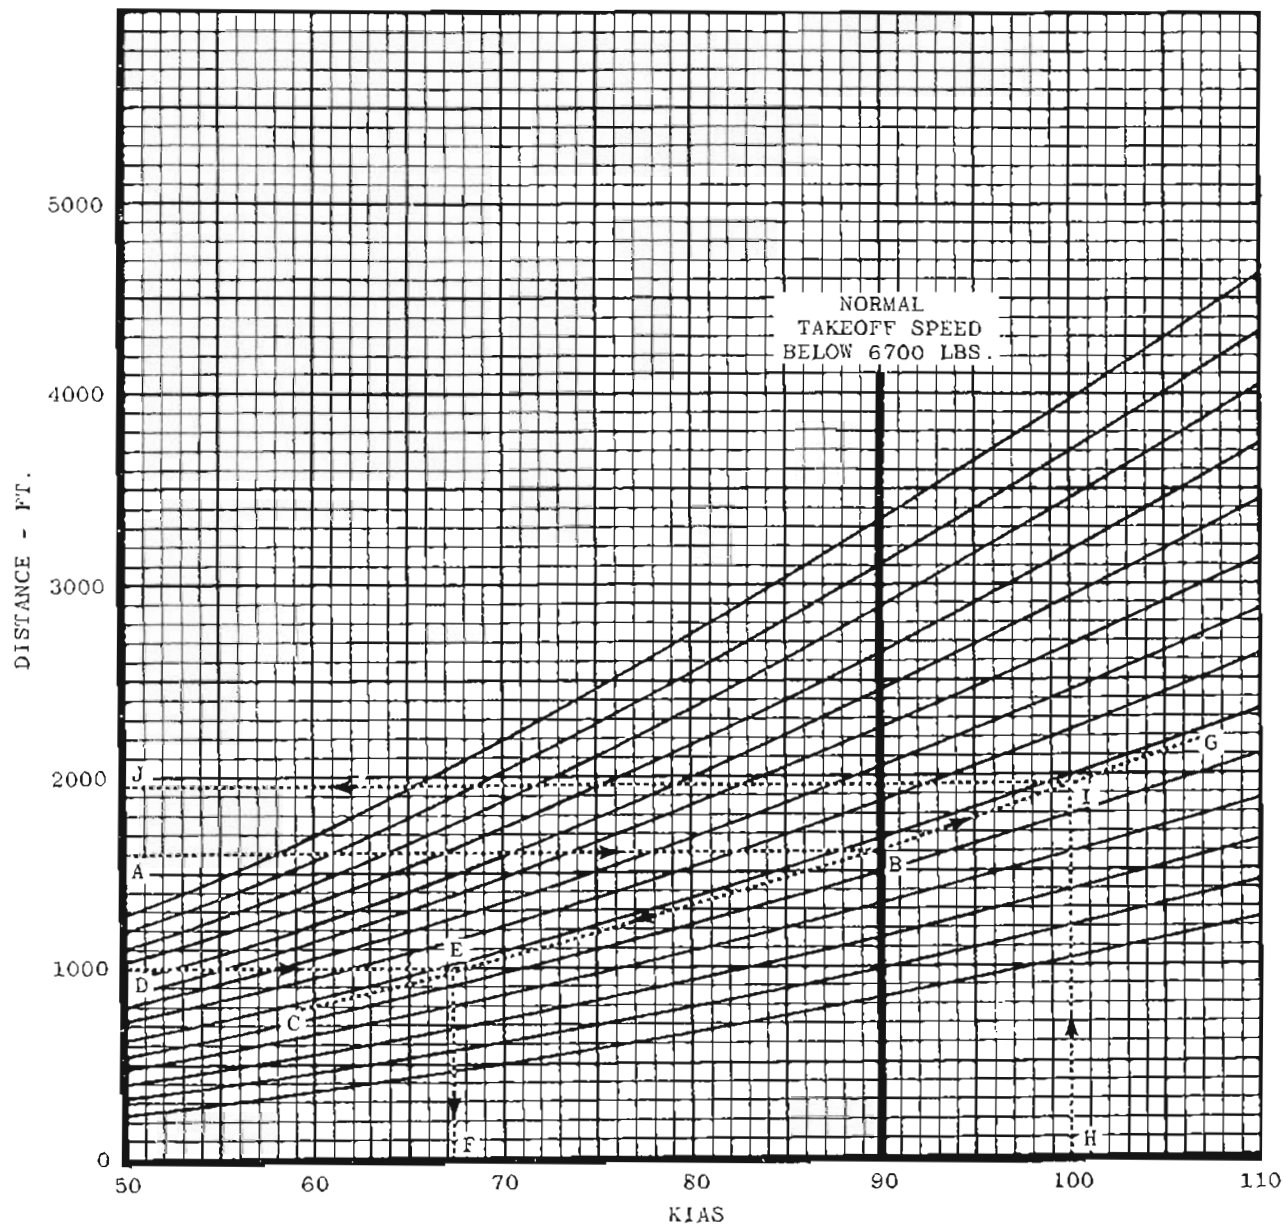

Figure A2-7
If crosswind conditions require an increase in takeoff speed, compute the takeoff distance using the Velocity During Takeoff Ground Run Chart (figure A2-7). Enter the chart with the normal takeoff distance. Proceed horizontally to intersect the normal takeoff speed. Proceed along the guidelines to the required takeoff speed, then horizontally left to read the takeoff distance.
**SOLUTION:** (Figure A2-7).